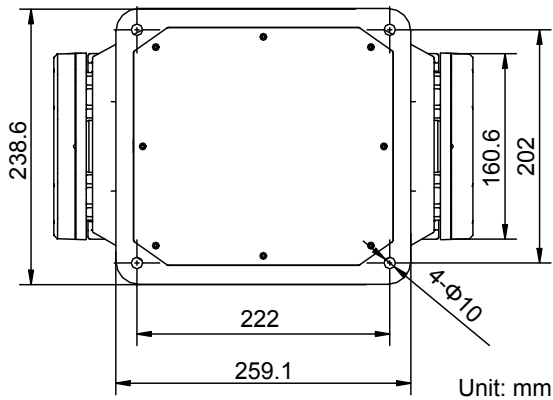

Figure 2-12 Positioning System Base Dimensions
5. Drill four holes on the installation position according to the Figure 2-12.